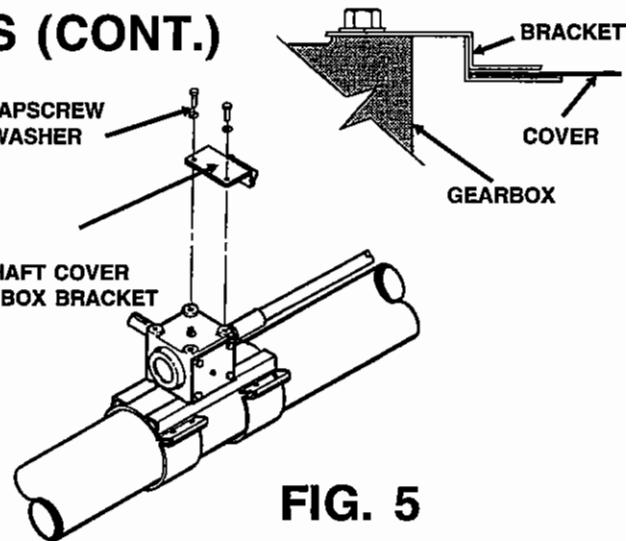

FIG. 5
1. Install drive shaft cover to gearbox bracket to the top of the gearbox. See Fig. 5.